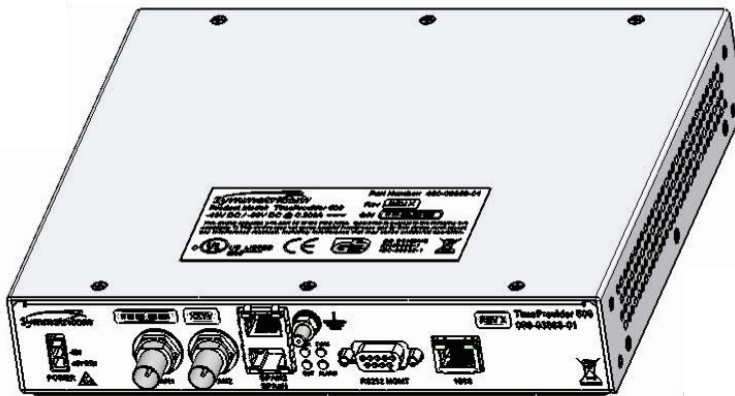

Figure 1-7. Location of TimeProvider 500 Product Label
9. Verify that the model and item number shown on the shipping list agrees with the model and item number on the equipment. The item number can be found on a label affixed to the top of the unit. See Figure 1-7 for the location of the label. Contact your Symmetricom distributor if the model or item number does not match the information on the shipping list.